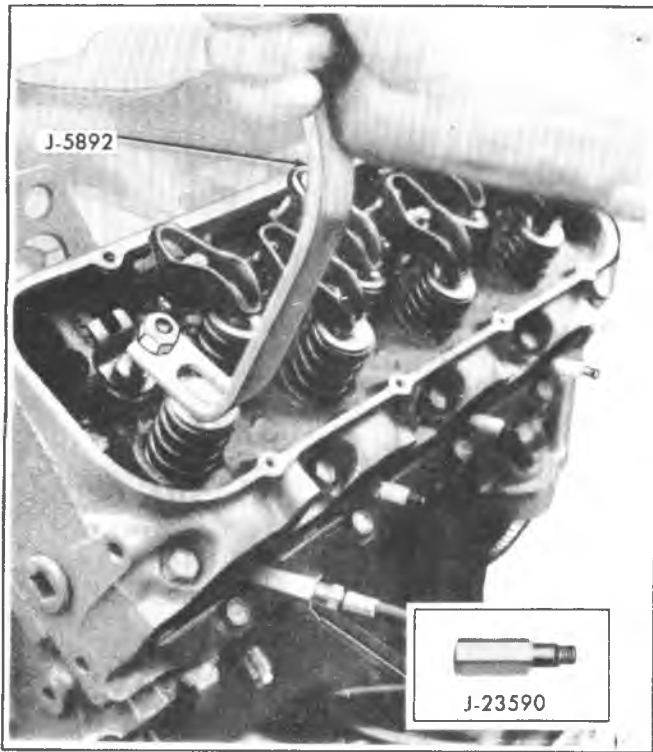

Fig. 6A5-12--Compressing Valve Spring
1. Install new valve stem oil seal (coated with oil) in position over valve guide (fig. 6A5-13). Seal installation instructions are supplied with each service kit. Install seal following procedures outlined on the supplied instruction sheet.